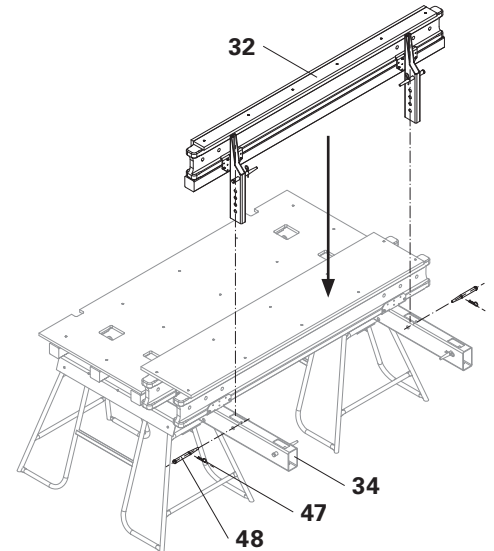
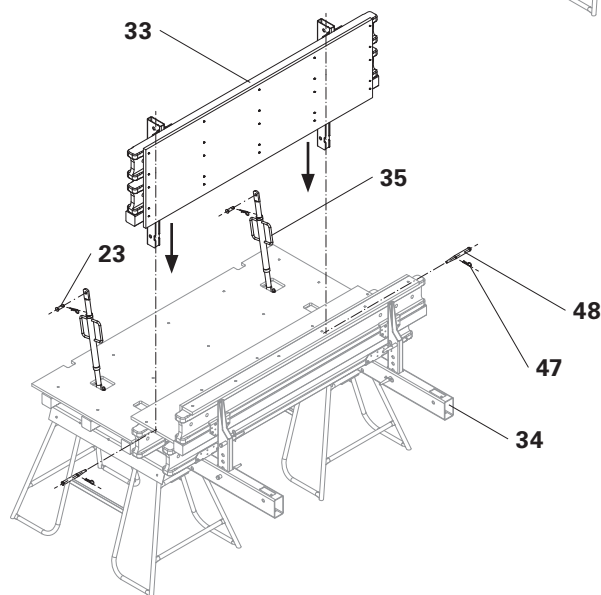
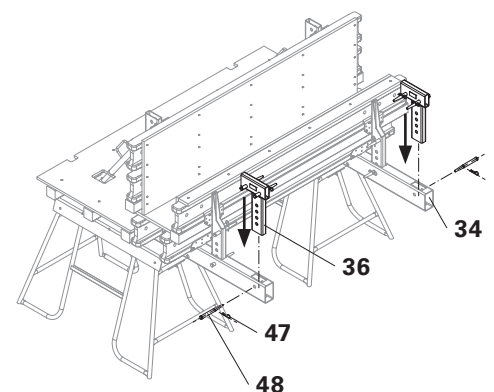

Fig. C1.03
Fig. C1.04
Fig. C1.05
1. Insert the Internal Formwork VD 250/265 (32) in the Platform Beam (34).
2. Install the Internal Formwork VD 250/265 (32) at the designated position using 1x Fitting Pin \varnothing 21 x 120 (48) each and secure with Cotter Pin 4/1 (47). (Fig. C1.03)
3. Insert the External Formwork VD 250/265 (33) in the Platform Beam (34).
4. Install the External Formwork VD 250/265 (33) at the designated position using 1x Fitting Pin \varnothing 21 x 120 (48) each and secure with Cotter Pin 4/1 (47).
5. Install Kicker AV 82 (35) on the External Formwork VD 250/265 (33) and the Platform Beam (34) using Bolts 16 x 42 (23) and secure with Cotter Pin 4/1 (47). (Fig. C1.04)
6. Insert the Connector Beam VD (36) in the Platform Beam (34).
7. Install the Connector Beam VD (36) at the designated position using 1x Fitting Pin \varnothing 21 x 120 (48) each and secure with Cotter Pin 4/1 (47). (Fig. C1.05)